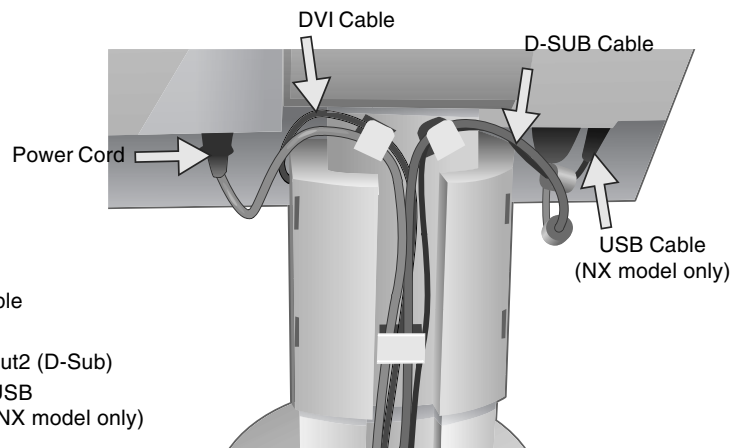

Figure C.2
5. For successful cable management, place the cables in this order into the cable management: Power cord and DVI cable (**Figure C.2**).
6. Place DVI cable and power cord into the specific hooks indicated in **Figure C.2**.
7. Place the D-Sub and the USB cable into the specific hooks indicated in **Figure C.2** (USB Cable: NX model only).